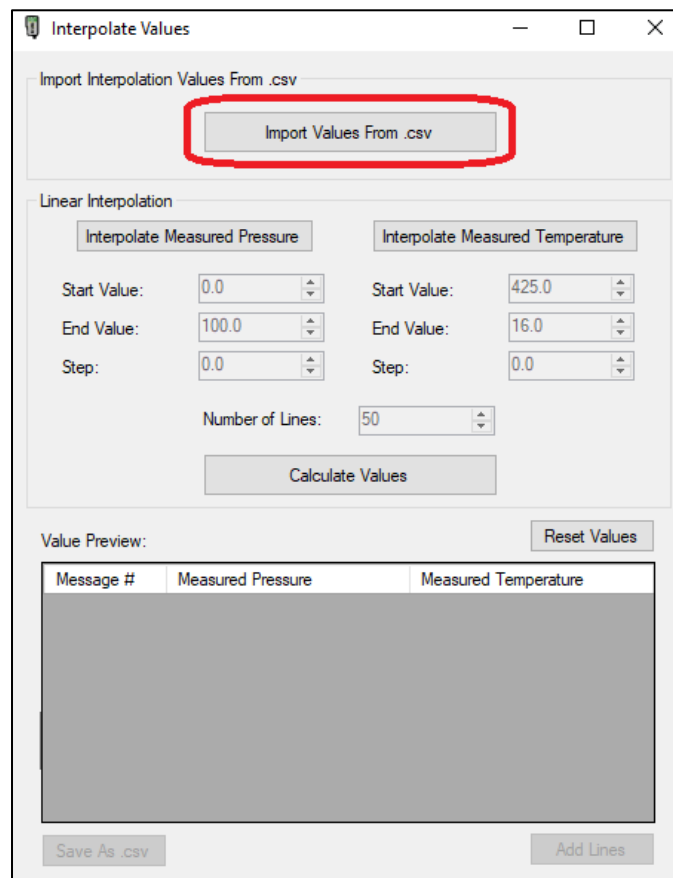

FIGURE 6-45 HHT TEST PATTERN GENERATOR SOFTWARE –IMPORT INTERPOLATED VALUES
STEP 1	At the top of the “Interpolation” popup window, click on the “Import Values from csv” button – see Figure 6-45.